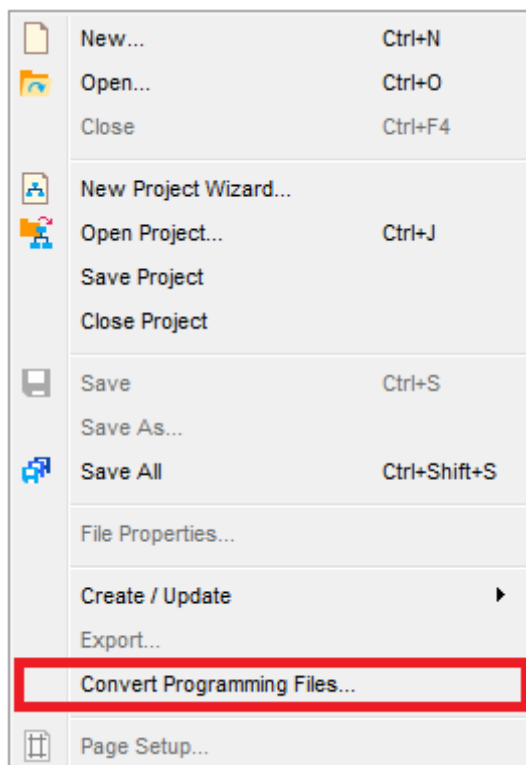

Figure 8-2 File menu of Quartus II
1. Choose **Convert Programming** Files from the File menu of Quartus II, as shown in Figure 8-2.